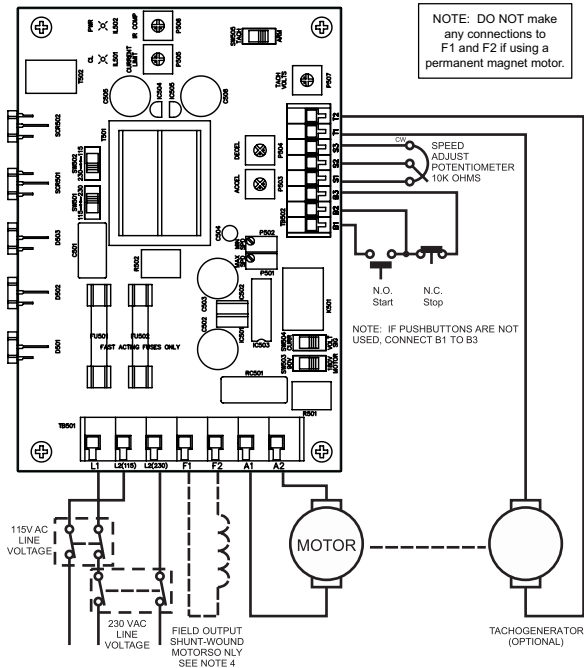
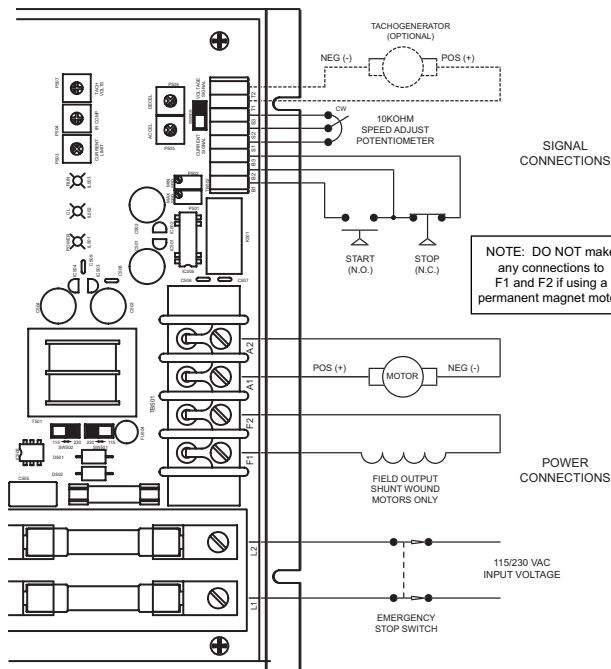

Figure 6. MHS403-1.5 and MHS403-10 Connections
Figure 7. MHS403-25 Connections
ACE strongly recommends the installation of a master power switch in the voltage input line, as shown in Figure 6 (page 15) and Figure 7 (page 16). The switch contacts should be rated at a minimum of 200% of motor nameplate current and 250 volts.
For models MHS403-1.5 and MHS403-10, connect the AC line power leads to terminals L1 and L2 (115) if using a 115 VAC line or to terminals L1 and L2 (230) if using a 230 VAC line. For model MHS403-25, connect the AC line power leads to terminals L1 and L2. ACE recommends the use of a single-throw, double-pole master power switch. The switch should be rated at a minimum of 250 volts and 200% of motor current. Refer to Figure 6 on page 15 and Figure 7 on page 16.
Connect a DC motor to terminals A1 and A2 as shown in Figure 6 on page 15 and Figure 7 on page 16. Ensure that the motor voltage rating is consistent with the drive's output voltage.
Use a 10K ohm, 1/4 W potentiometer for speed control. Connect the counter-clockwise end of the potentiometer to S1, the wiper to S2, and the clockwise end to S3. If the potentiometer works inversely of the desired functionality (e.g. to increase motor speed you must turn the potentiometer counterclockwise), power off the drive and swap the S1 and S3 connections. Set SW504 to VOLT. Refer to Figure 6 on page 15 and Figure 7 on page 16.
Using tachogenerator feedback improves speed regulation from approximately 1% of motor base speed to approximately 0.1% of motor base speed. Use tachogenerators rated from 7 VDC per 1000 RPM to 50 VDC per 1000 RPM. Connect the tachogenerator to terminals T1 and T2 of terminal block TB502. The polarity is positive (+) for T1 and negative (-) for T2 when the motor is running in the forward direction. Place SW504 in the TACH position. See Figure 6 on page 15 and Figure 7 on page 16 for tachogenerator connections. The TACH trim pot must be adjusted prior to operating with tachogenerator feedback. Refer to the Calibration section for instructions on calibrating the TACH trim pot.
If the START/STOP pushbuttons are not used, wire a jumper between terminals B1 and B3 to bypass the latching circuit. The drive will then operate in a start on power-up mode. See Figure 6 on page 15 and Figure 7 on page 16 for these switch connections.
Using tachogenerator feedback improves speed regulation from approximately 1% of motor base speed to approximately 0.1% of motor base speed. Use tachogenerators rated from 7 VDC per 1000 RPM to 50 VDC per 1000 RPM. Connect the tachogenerator to terminals T1 and T2 of terminal block TB502. The polarity is positive (+) for T1 and negative (-) for T2 when the motor is running in the forward direction. Place SW504 in the TACH position. See Figure 6 on page 15 for tachogenerator connections. The TACH trim pot must be adjusted prior to operating with tachogenerator feedback. Refer to the Calibration section for instructions on calibrating the TACH trim pot.
For this reason, ACE strongly recommends installing an emergency stop switch on both AC line inputs (see Figure 6 on page 15 and Figure 7 on page 16).